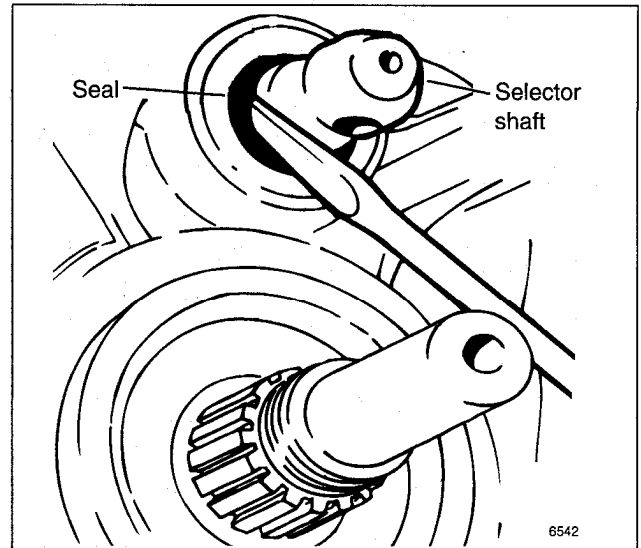

**Fig. 3.** Selector shaft oil seal being pried out with screwdriver.
6. Carefully pry seal out with a narrow seal remover or small screwdriver. See Fig. 3.